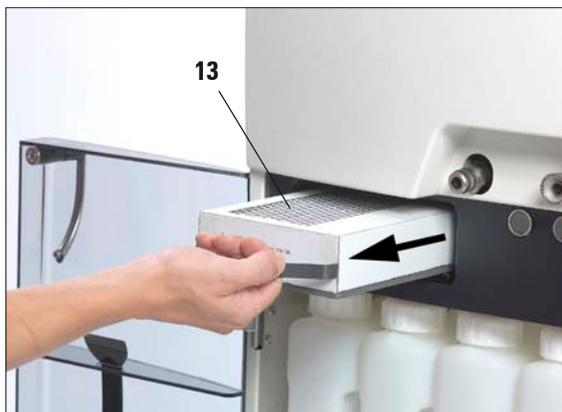

Fig. 73
- The life of the carbon filter cartridge (13) will depend on the reagent types used and the frequency of vacuum cycles (which expel air from the instrument through the filter).
- In general, carbon filter cartridges should be replaced after approx. 3 months. (Fig. 73) After replacing the filter press open the menu **SMART MONITOR** to reset the filter age to "0". See also chapter 5.5.